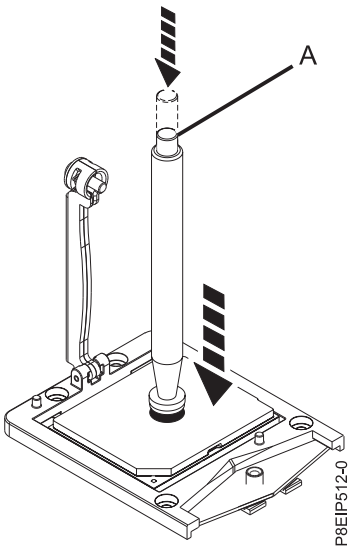

Figure 66. Lowering the removal tool onto the system processor module
7. Lower the vacuum pen tool onto the system processor module to install. Fully press the top of the pen (A) and hold the pen in the center of the system processor module as shown in Figure 66. Release the top of the pen to fasten the pen onto the system processor module.